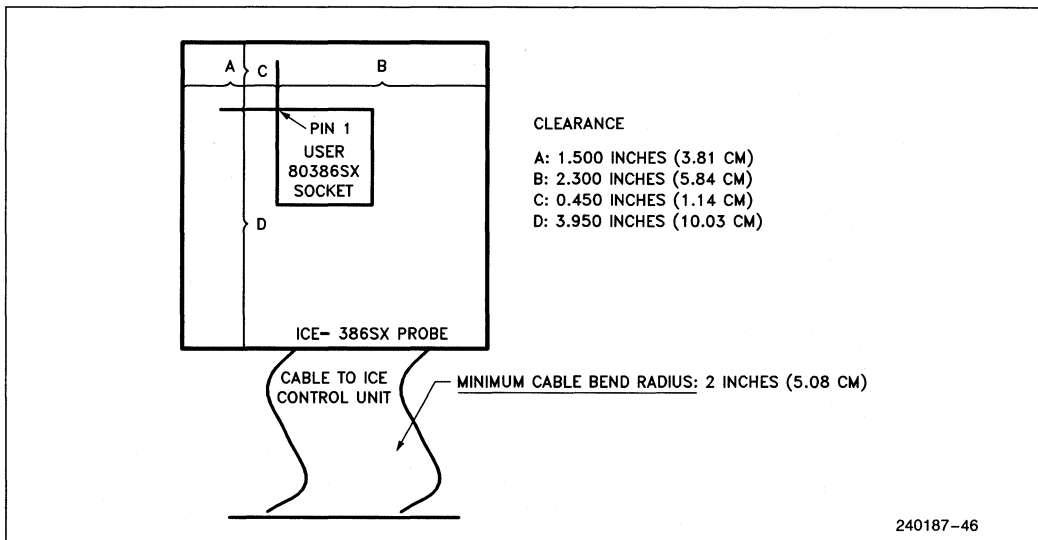

Figure 7.12: Preliminary ICETM-386SX Processor Module Clearance Requirements (inches)
**80386SX Location and Orientation:** The ICE-386SX processor module may require lateral clearance illustrated in Figure 7.12, viewed from above the 80386SX socket. The ICE-386SX processor module alone requires vertical clearance of 1.25 inches above the height of the surrounding circuitry. The optional isolation board (OIB), which provides extra electrical buffering and has the same lateral clearance requirements as Figure 7.12, adds 0.5 inches to the vertical clearance requirement.